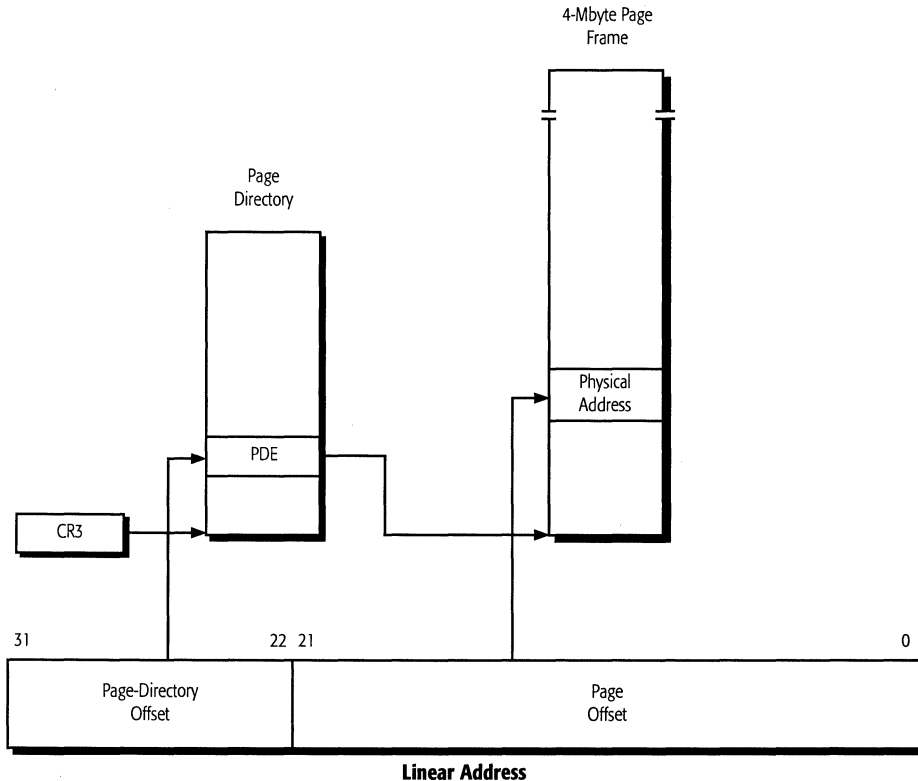

Figure 15. 4-Mbyte Paging Mechanism
- **4-Mbyte Paging (Figure 15)**—Bits 31–22 of the linear address select an entry in a 4-Mbyte page directory in memory, whose physical base address is stored in CR3. Bits 21–0 of the linear address select a byte in a 4-Mbyte page in memory, whose physical base address is specified by bits 31–22 of the page-directory entry. Bits 21–12 of the page-directory entry must be cleared to 0.